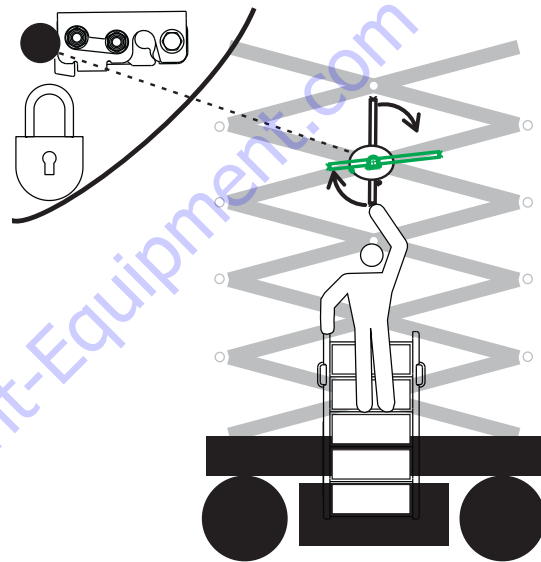

Figure 12 Position to release or retract the top maintenance support (only for model SJ9253 RT)
- a. Go up the MEWP ladder. Maintain three points of contact on the ladder at all times. Refer to *Figure 12*.